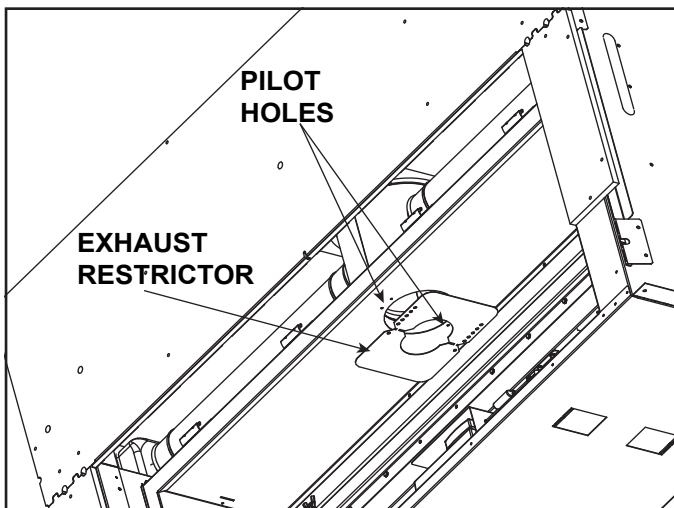

Figure 4.5 Exhaust Restrictor
1. Locate the two pilot holes in the inside firebox chamber as shown in Figure 4.5.